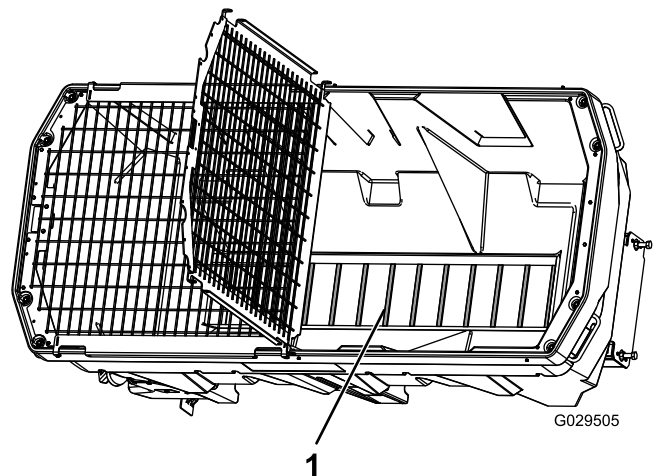

Figure 23
2. Inside the hopper, check the gap between the pintle-chain and the clean-out tray (Figure 23).